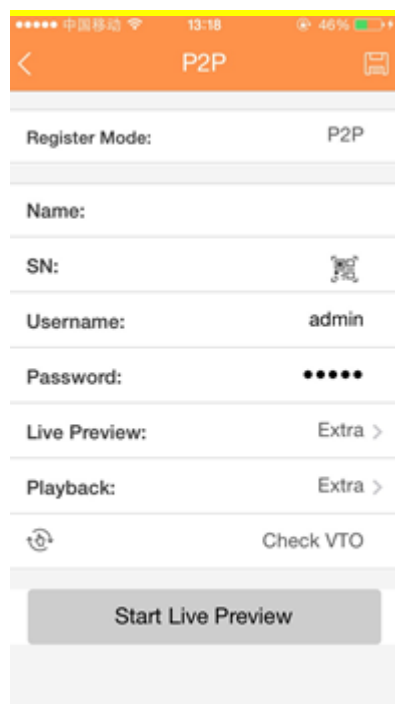

Figure 4-104
3. Tap Device manager button, you can use several modes (P2P/DDNS/IP and etc.) to add the device. Click  to save current setup. Tap Start Live preview to view all-channel video from the connected device. See Figure 4-104.